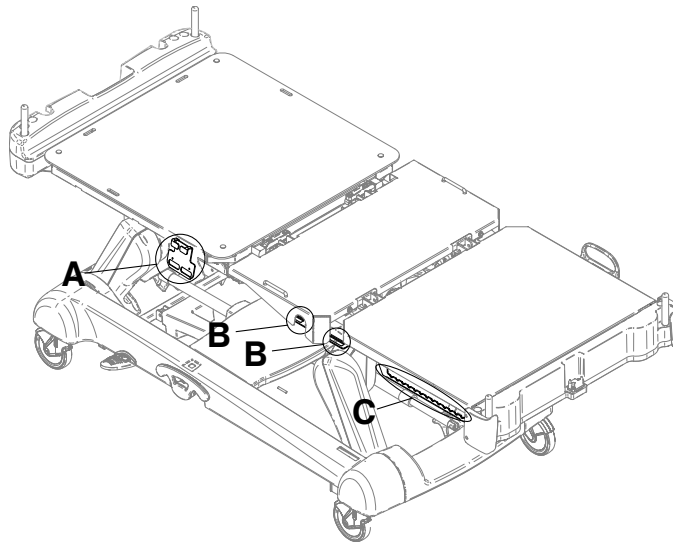

Figure 10 – Foley bag hooks
There are two isolated foley bag hooks under the seat section (B) on both sides of the product (Figure 10). If you weigh the patient with the scale system, the isolated foley bag weight is not included with the patient weight.